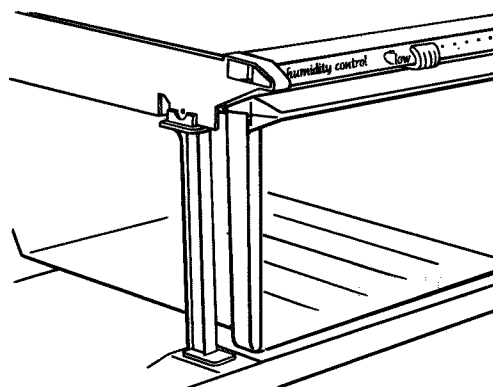

Figure 38
- j. Remove crisper from support which fits into recess at bottom center of refrigerator. See Figure 38.